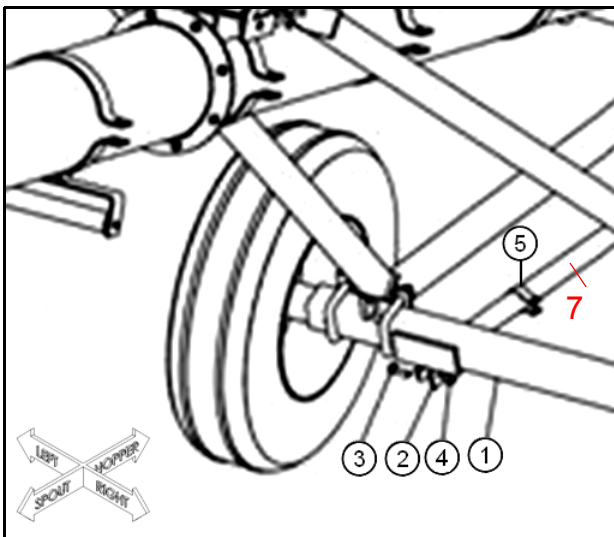

Figure 3.4
1. Bolt transport pipes (7) to axle (1) with bolts (3) and locknuts (4). See Figure 3.4, 3.5 and 3.6.